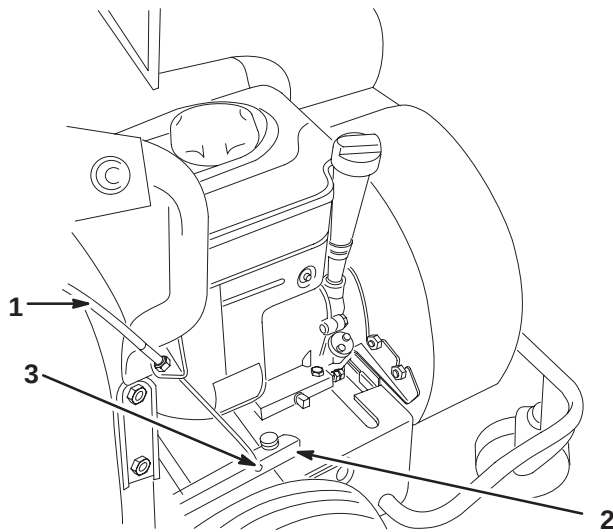

Figure 4
5. Hook the lower end (ball end) of the traction control wire in the keyhole slot in the arm on the traction drive guard (Fig. 4).
6. Secure the ball in the keyhole slot with a bolt and nut (Fig. 4).